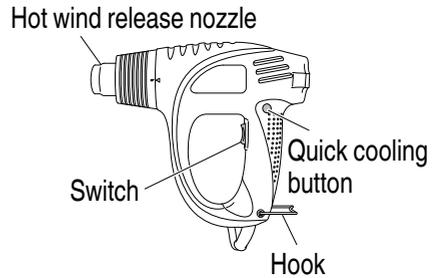

Fig. 1
1. Switch Operations and Temperature Adjustments (**Fig. 1, 2**)